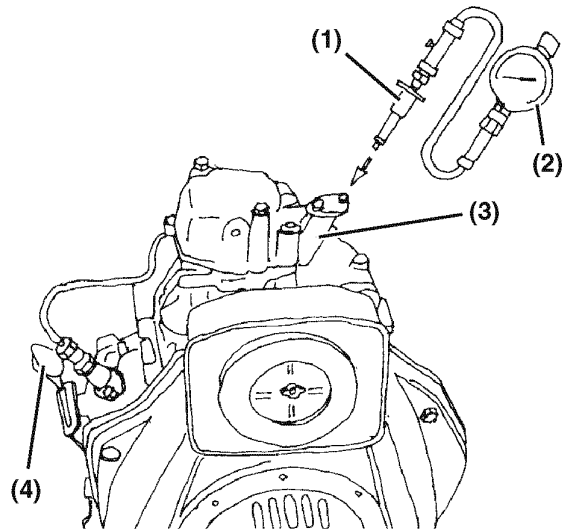

Figure 13-1
2. Stop the engine. Remove the fuel injector (**Figure 13-1, (3)**) from the cylinder head. See *Removal of Fuel Injector* on page 9-23.
3. Crank the engine with the speed control (**Figure 13-1, (4)**) at the stop position (no injection state) 5 to 6 compression strokes before installing the compression gauge adapter.
4. Install a gasket at the tip end of the compression gauge adapter (**Figure 13-1, (1)**). Install the compression gauge (**Figure 13-1, (2)**) and the compression gauge adapter at the cylinder.